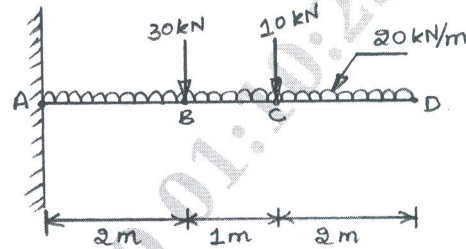

Fig. Q5
- 5 Draw the shear force and bending moment diagram for a cantilever subjected to the forces as shown in Fig. Q5. (20 Marks)